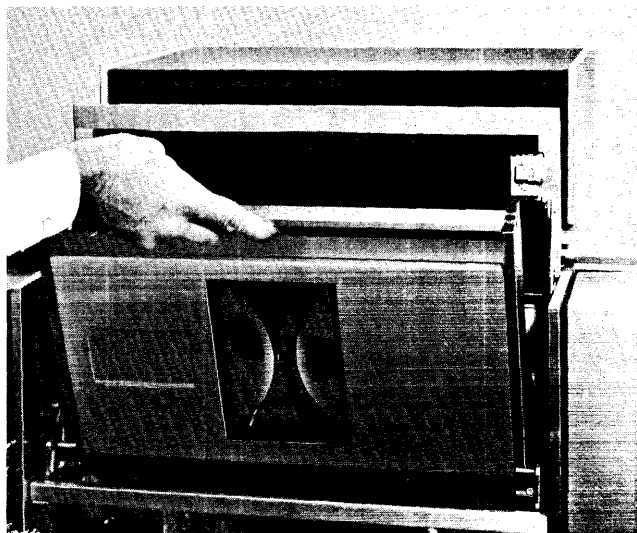

Figure 68. Mounting a Cartridge
2. Place the cartridge at 90 degrees to the receiver, with the bottom of the cartridge side bars resting in the receiver (Figure 68).